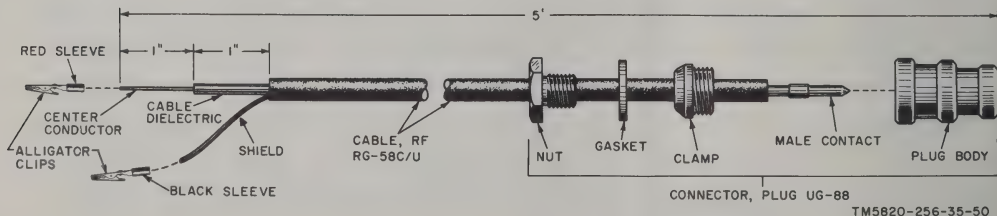

Figure 4-4. Fabrication of special test cable.
#### 4-8. Fabrication of Test Cable (fig. 4-4)
a. To facilitate the proper attachment of the UG-88/U connector to the RG-58C/U cable (fig. 4-4), observe the following dimensions:
- (1) Cut off rubber insulation  $\frac{5}{16}$  inch from end.
- (2) Cut off cable dielectric  $\frac{3}{16}$  in from end.